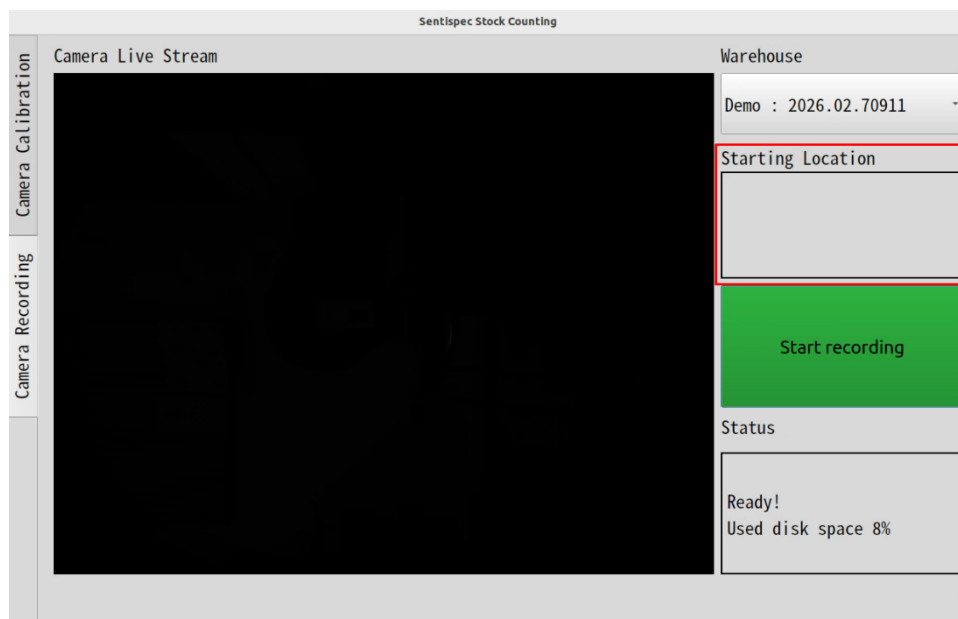

FIGURE 2-15 - STARTING LOCATION FIELD
2. Locate starting point label see Figure 2-7 - Recording aisle with aligned shelves on thru/arch and type the location code under the "Starting Location" field on the display see Figure 2-15 - Starting location field.